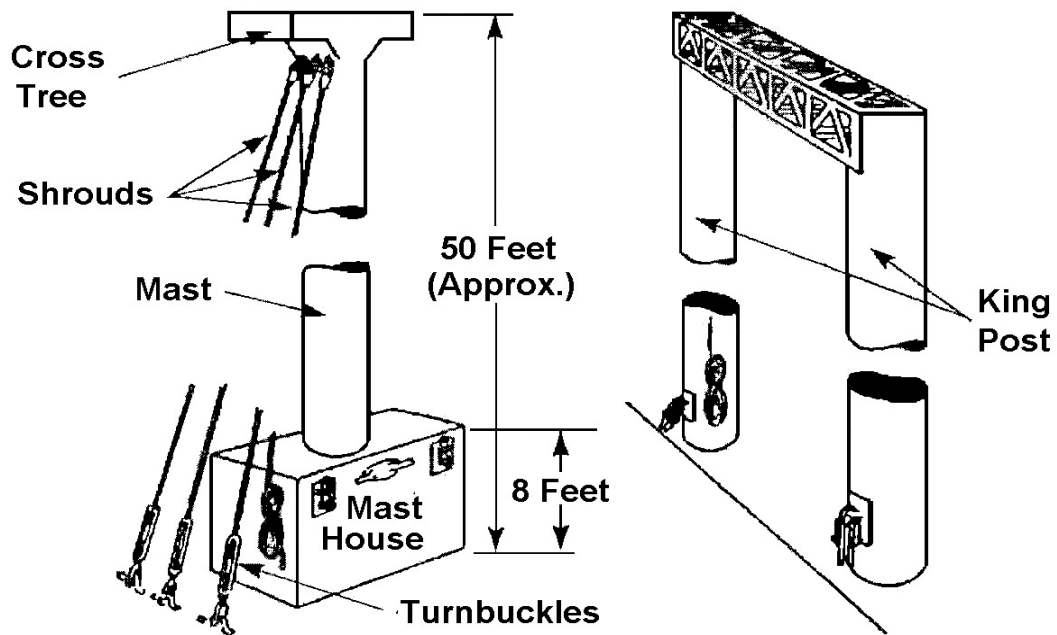

Figure 3-27
- 6. Inspect standing rigging (see Figure 3-27).